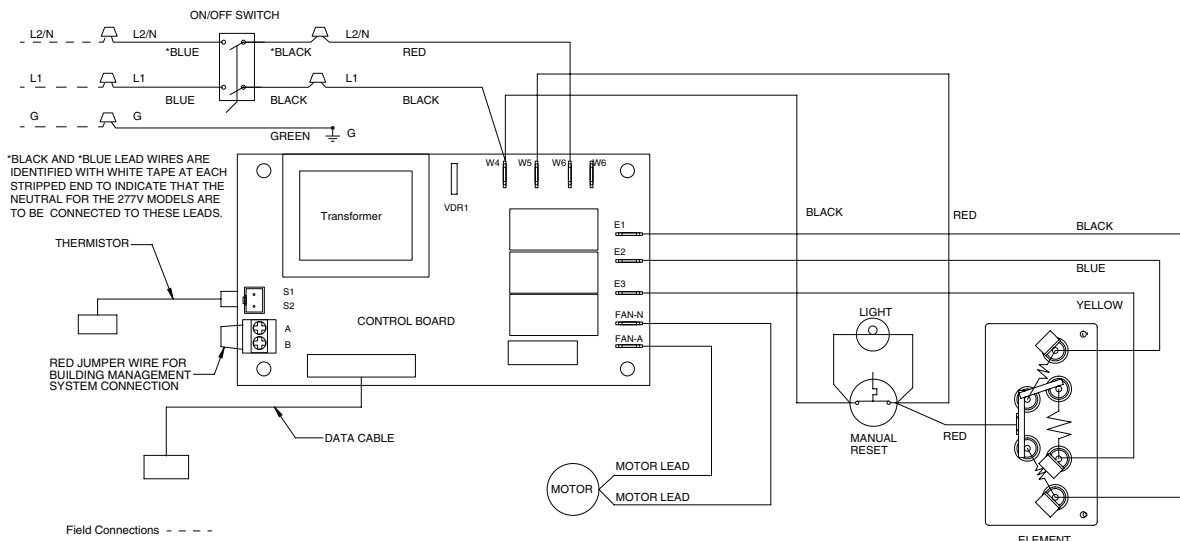

Figure 3 - Wiring Diagram
7. Insert power supply cable through cable clamp, allowing at least 6" (152 mm) of leads to extend inside the back box. Connect the blue lead wires of ON/OFF switch to the supply wire leads using wire connectors (see Figure 3, Wiring Diagram).
5. Insert power supply cable through cable clamp, allowing at least 6" (152 mm) of leads to extend inside the back box. Connect the blue lead wires of ON/OFF switch to the supply wire leads using wire connectors (see Figure 3, Wiring Diagram).
Refer to Wiring Diagram, Figure 3
To utilize the BMS capabilities of this unit, remove the red jumper wire between terminals A and B on the control terminal board (see figure 3, wiring diagram). Connect two wires from a dry contact (no voltage) in the BMS system to terminals A and B.